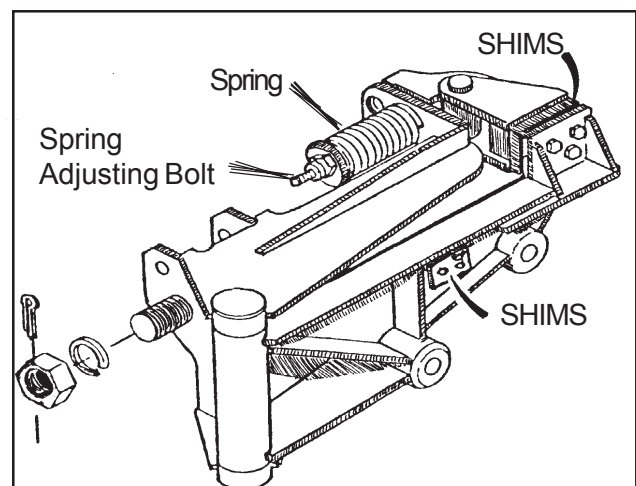

FIGURE 3
1. See Figure 3 to the Right.
NEW HOSE ROUTING w/o Governor May 1998 & Up (Figure 3)